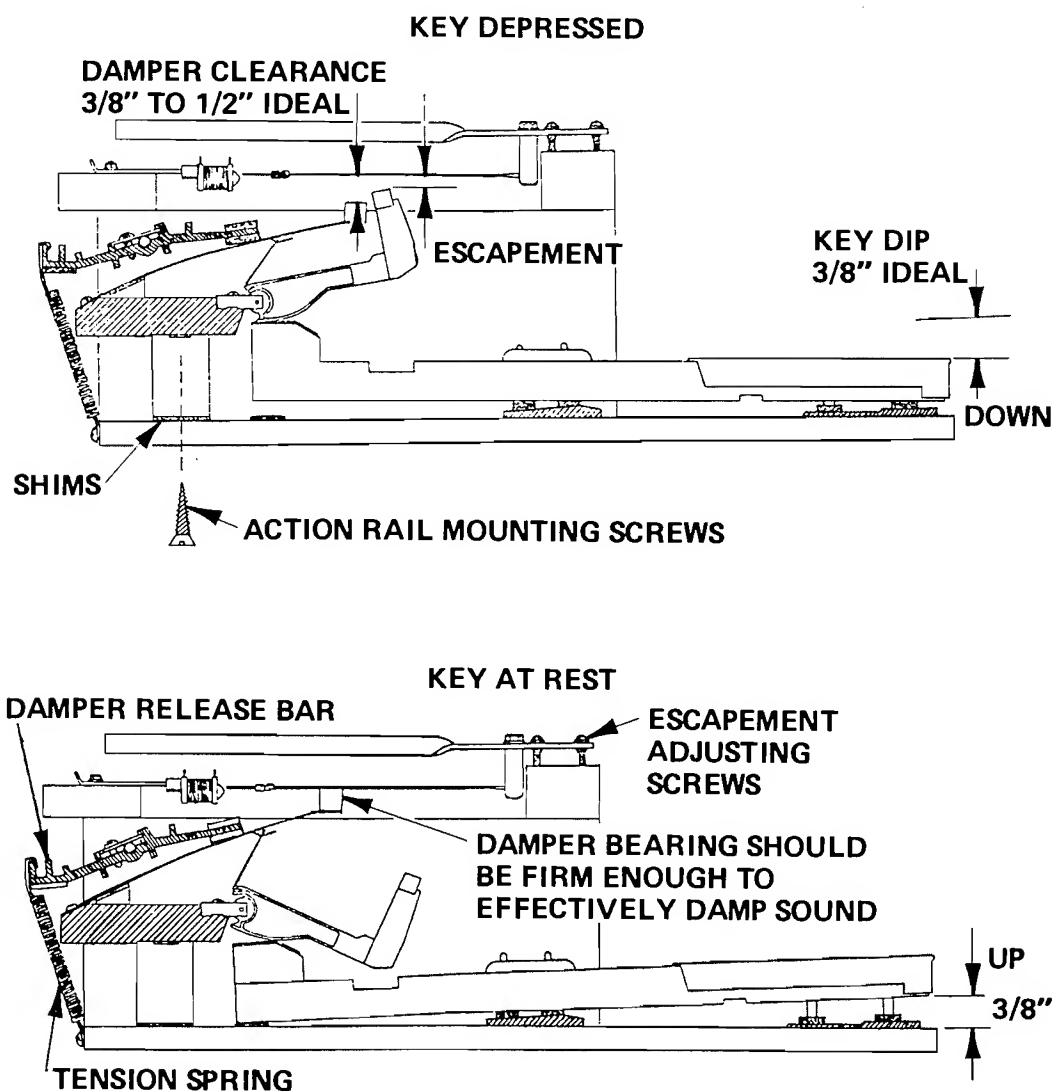

Figure 10-1. RHODES Early Design Single Key Views
1. Key Dip. Key Dip and Hammer travel are controlled by the height of the Action Rail. Key Dip is the term used to describe the downward limit of travel of the Key when depressed. $3/8''$ (9.525mm) is ideal. This is controlled by means of shims (Figure 10-1) placed between the Action Rail and the Key Frame. To adjust, remove the entire Action from the box. Along the back of the Key Frame under the Action Rail will be five wood screws. Remove these, then either remove shims or add shims depending upon whether you wish to reduce or increase the Key Dip.